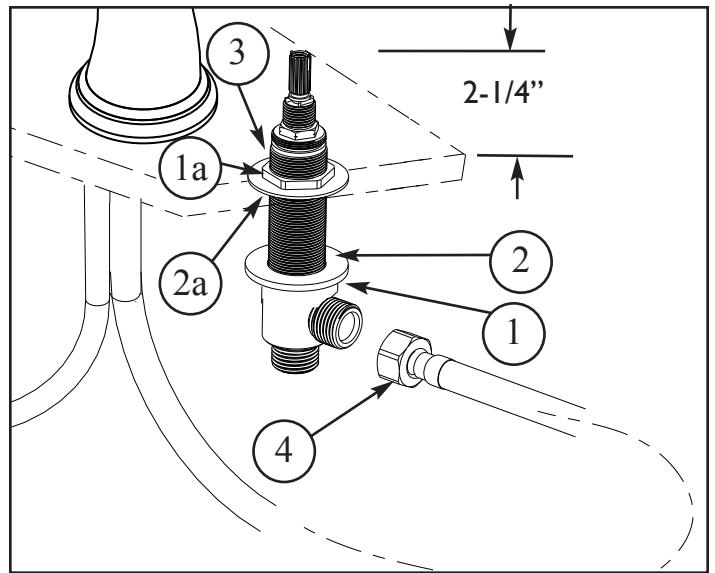

Figure 2
2. Place flange NUT (1) and fiber WASHER (2) onto valve BODY (3). Insert valve BODY (3) through sink hole from underside of sink. Valve BODY (3) should extend 2-1/4" above mounting surface. If necessary adjust lower flange NUT (1). Place fiber WASHER (2a) and flange NUT (1a) onto upper position of valve BODY (3). Set valve BODIES (3,3A) so that their outlets are facing towards the center of the sink and tighten upper flange NUT (1a). See Figure 2.
3. Connect HOSE (4) to outlet of each valve BODY (3,3a). (Red to HOT an Blue to COLD). Hand tighten and secure each HOSE (4) with a wrench 1/4 turn. See Figure 2.